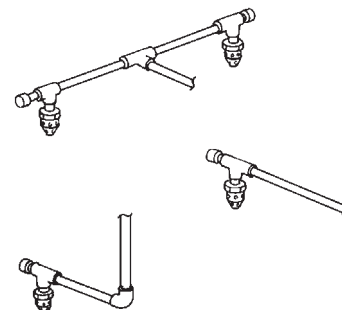

FIGURE 10
- All dead end pipe lines to be provided with a 1/2 in. capped nipple, 2 in. long. See Figure 10.